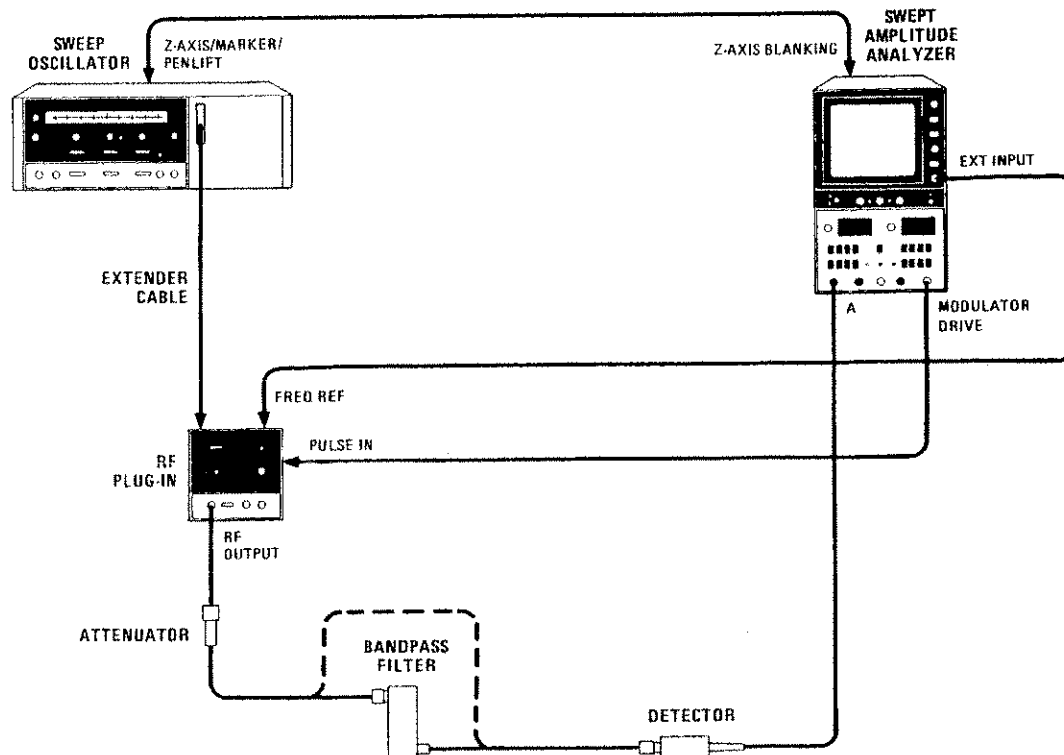

Figure 5-4. Harmonic Adjustments Test Setup
1. Connect equipment as shown in Figure 5-4 omitting the bandpass filter. (Use 20 dB attenuator for 86235A/86240A/C; use 6 dB attenuator for 86240B.)